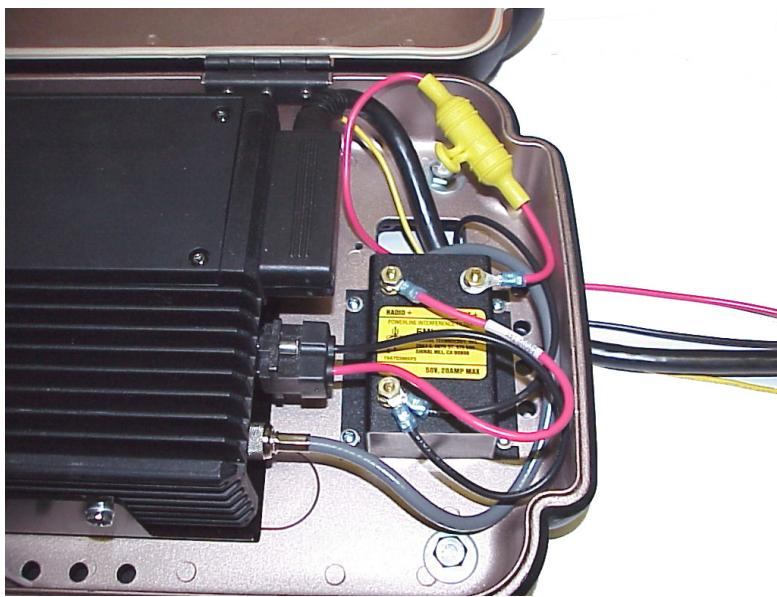
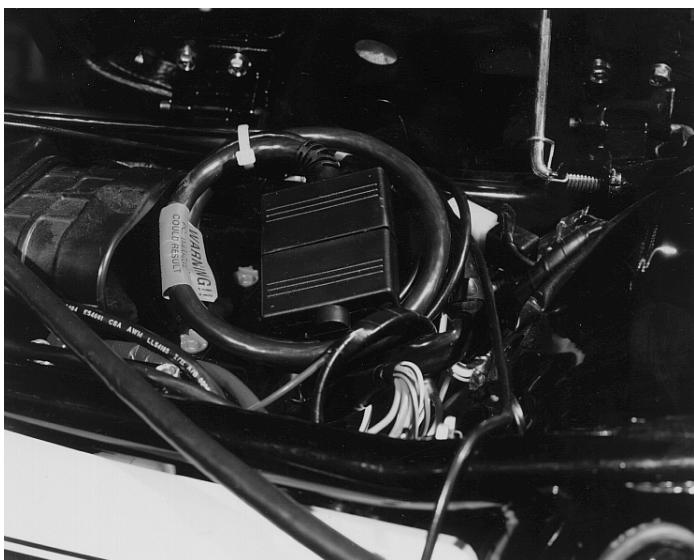

Figure 6-4: Radio Connections
Figure 7-4: Option Cable Stored Beneath Saddle Area
6. Refer to Figure 6-4 and connect the power cable to the radio. (Refer to Cable Connections.)
8. Refer to Figure 6-4 and connect the antenna and control cables to the radio. (Refer to Antenna Installation.)
4. Pass the power and control cables through the square hole in the bottom of the radio case assembly to the area beneath the saddle. See Figure 6-4 which shows cable routing under the center of the case assembly. Figure 7-4 shows the cabling underneath the saddle area. (Note the location of the option cable and connector, not being used.)
As shipped from the factory, the power cable (19B802622P2) is equipped with a 12 amp in-line fuse (installed) and ring terminals. The power cable supplies power from the battery to the radio. Refer to Figure 6-4.